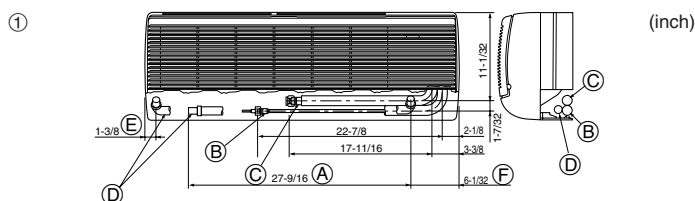

Fig. 4-2
- ① Position of refrigerant and drain piping (Fig. 4-2)